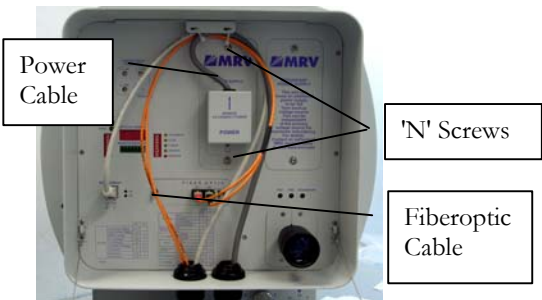
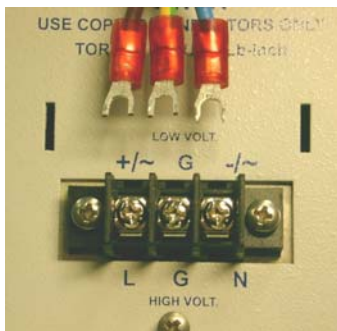

Fig. 6.2: Power cable Fiberoptic cable, and 'N' Screws
Fig. 6.3: Power cable & Terminal block
- 3 – Connect the wires of the power cable (see Figure 6.2) to the Terminal Block (see Figure 6.3) paying attention to L=Line. G=Ground & N=Neutral.